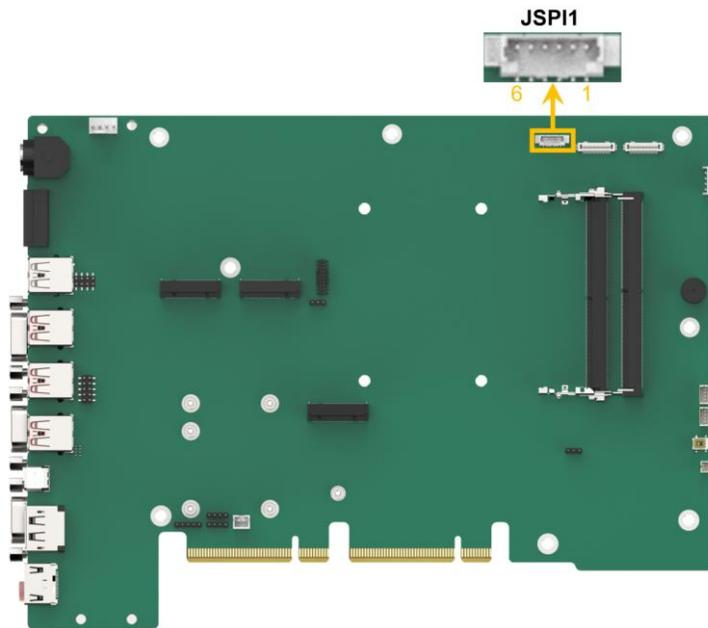

Figure 4-7: Flash SPI ROM Connector Location
- CN Location:** See **Figure 4-7**